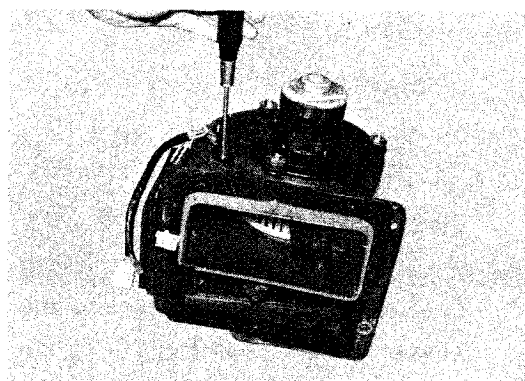

Fig. 66
- 2) Remove the blower control resistor. See Fig. 66.